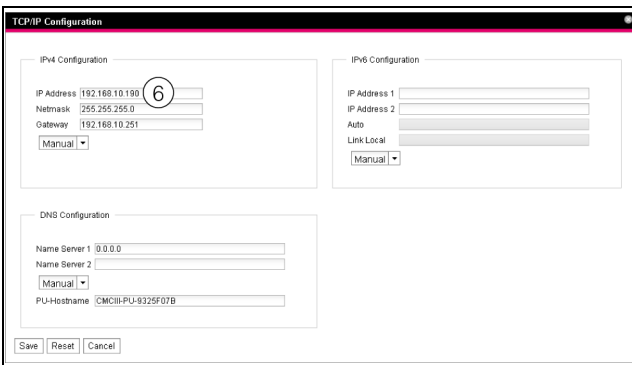

Fig. 11: Customising the TCP/IP settings
- Change the IP address of the device in the **TCP/IP Configuration** window in the **IPv4 Configuration** group frame to an address permitted in the network (fig. 11, item 6).